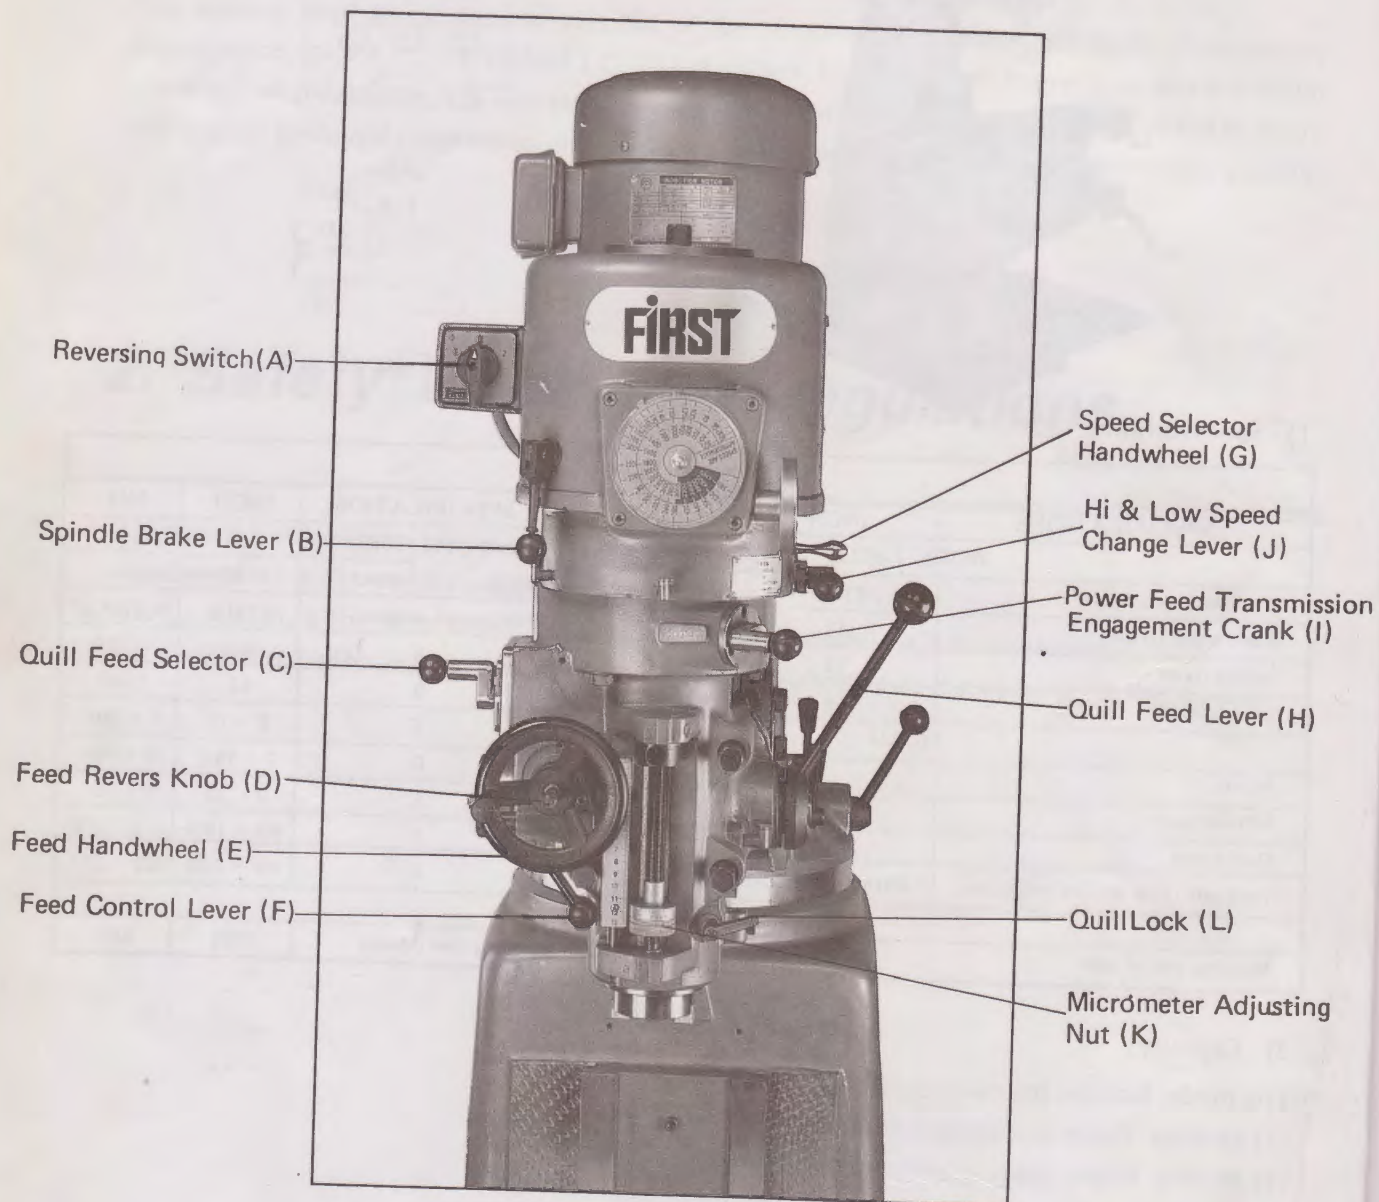
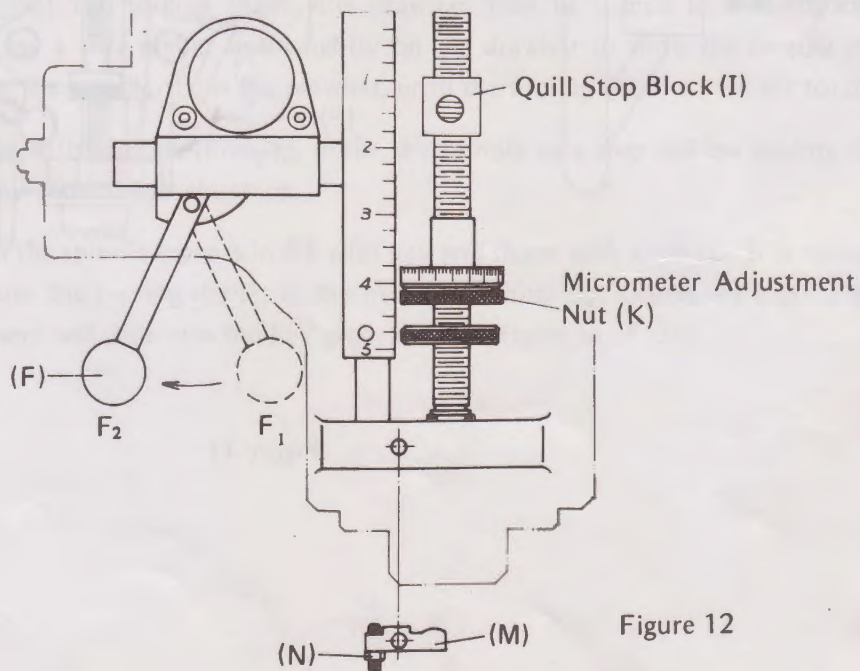

Figure 3
Figure 12
Motor turning is controlled by the reversing switch (Vide the Figure in the right). When the high-low speed change lever (Vide Figure 3(J), P. 3) is placed at the high gear position and the switch is on FOR, the motor turns clockwise. When the switch is on REV, the motor turns counterclockwise. When the switch is on off, then the power source is cut off.
The manual feed lever is installed on the right side of headstock (Vide Figure 3(H), P. 3). The spindle will travel vertically when the lever is turned. There are 12 positions to be chosen. An operator can freely take out the lever and install it again at the position deemed proper and fit.
For automatic feeding, please take the following steps (Vide Figure 3, P. 3):
- a'. Loosen the quill lock (L).
- b'. Turn the power feed transmission engagement crank (I) from "OUT" to "IN" position. Make certain to engage the worm gear cradle with the spindle gear hub so that the driving will be directed from the spindle worm and worm gear before it is passed to the speed change gears.
- c'. Feed speed is in three stages. H, L and M. Selection may be made by quill feed selector (C).
- d'. Pull the feed control lever (F) from (F1) to (F2) position (Figure 12) to engage the overload clutch for automatic feed mechanism.
- f'. As shown in (Figure 12), the working depth may be set by micrometer adjustment nuts (K) (each graduation is 0.001" or 0.02mm). When the quill stop block (I) contacts the micrometer adjustment nut (K), the feed control lever (F) may simply jump from (F2) back to (F1) position owing to the connecting motion between the feed trip lever and feed trip plunger. This will disengage the overload clutch and stop the spindle feed.
2. Avoid to engage feed control level (F) when quill stop block (I) in upper end position.
3. The power feed transmission engagement crank (I) (Figure 3) shall be placed at "OUT" position when the automatic feed is not in operation. Do not move the power feed transmission engagement crank when the spindle is in revolution.